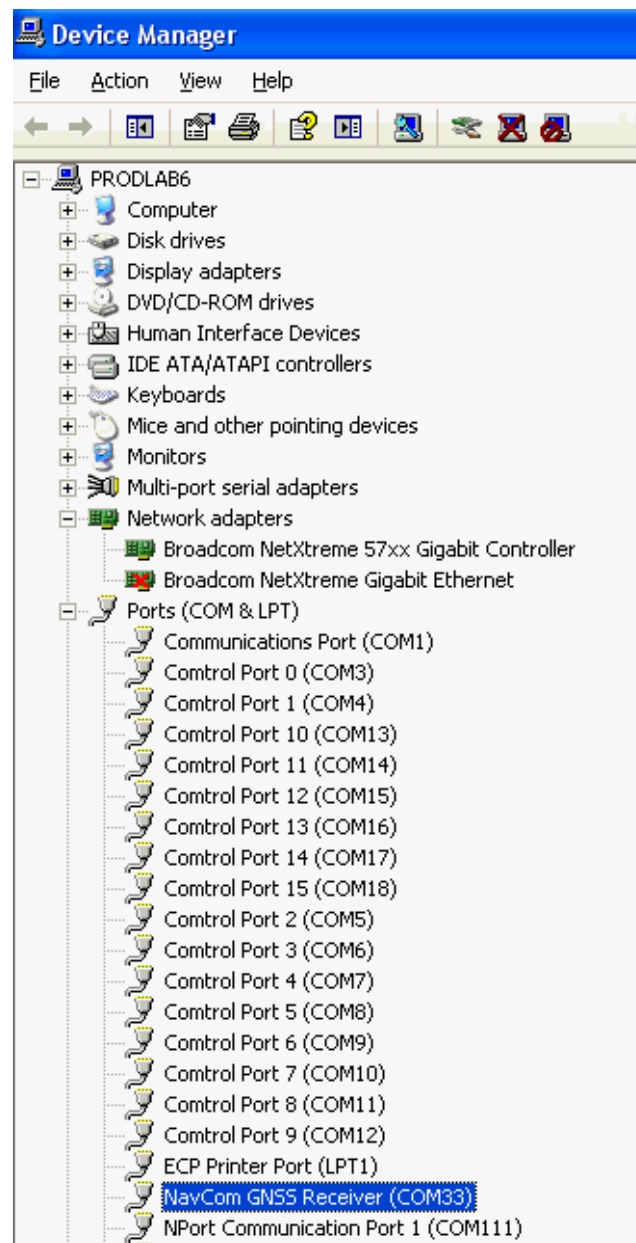

Figure 12: Device Manager
11. On the *Device Manager* window (see Figure 12), check to confirm that the COM port has been configured.